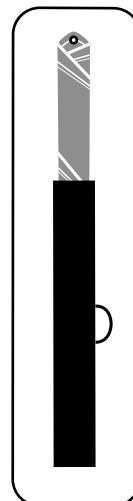

Fig. 10:
- Insert your sail sleeve-end first into the sail bag (fig. 10).